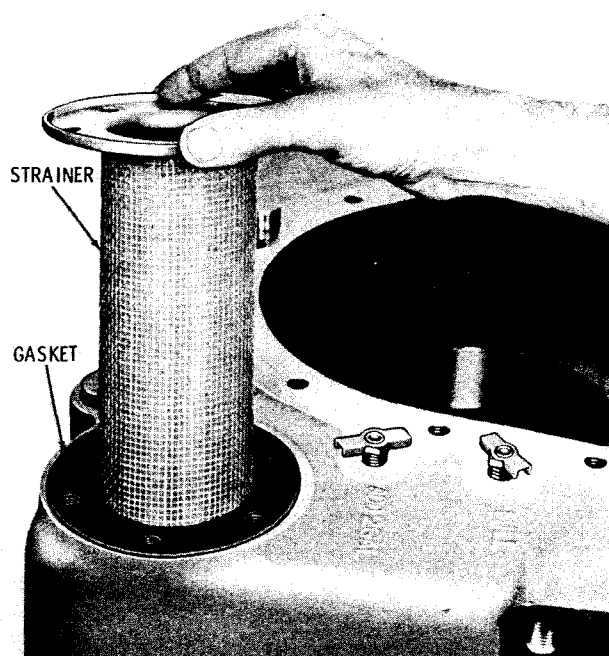

Fig. 7-1. Installing oil strainer
(1) Install the oil strainer and gasket into the transfer gear housing (fig. 7-1). Retain the strainer with six 3/8-16 x 7/8-inch bolts and lock washers. Tighten the bolts evenly to 26 to 32 pound feet torque.
(2) If the transfer drive gear, idler gear, or driven gear assemblies were disassembled after removal, assemble them as outlined in (3), (4) and (5), below.